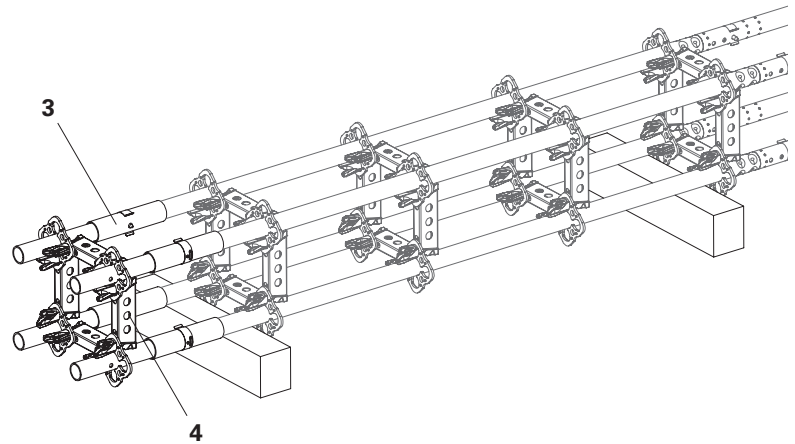

Fig. A2.02
3. Connect Base Standards UVB (3) to Horizontal Ledgers UH-2 25 (4). Secure the wedges. (Fig. A2.02)